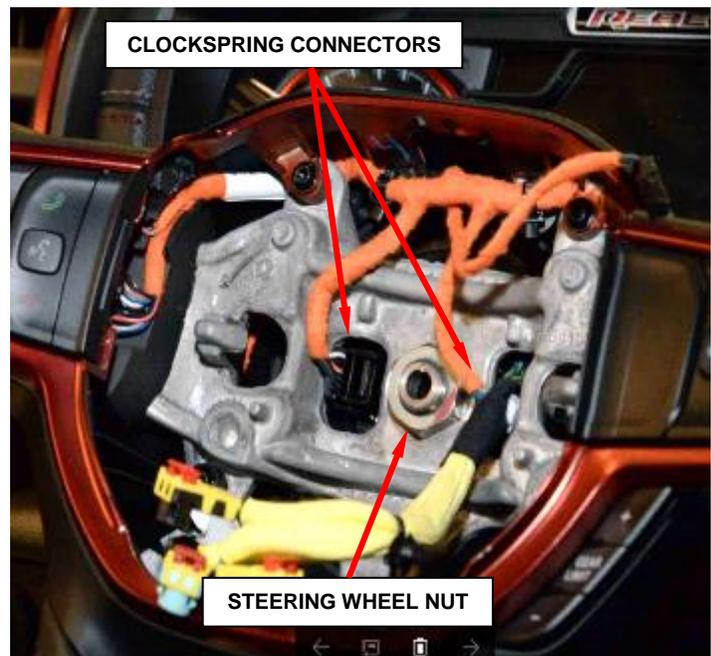

Figure 7 – Steering Wheel Removal
2. Disconnect the Clockspring electrical connectors (Figure 7).
3. Remove and **DISCARD** the steering wheel retaining nut and remove the steering wheel (Figure 7).